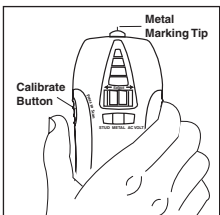

Fig. 6
- b. Place the unit flat against the surface to be scanned. (Fig. 6)
- c. Press the calibrate/activate button located on the side to activate the test. Continue to press and hold this button while sliding the unit across the surface. (Fig. 6)